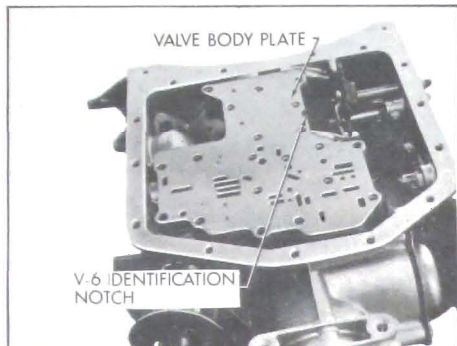

Figure 5-120
12. On V-6 models note the identification notch. See Figure 5-120.